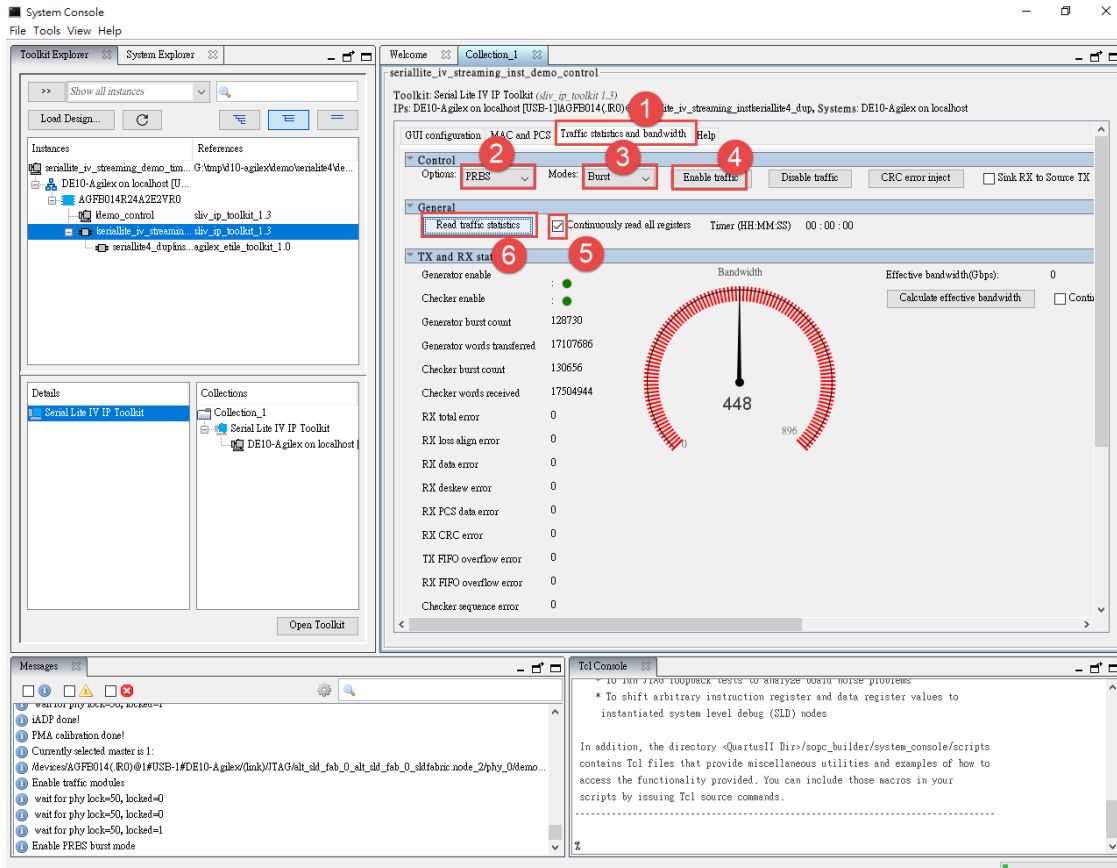
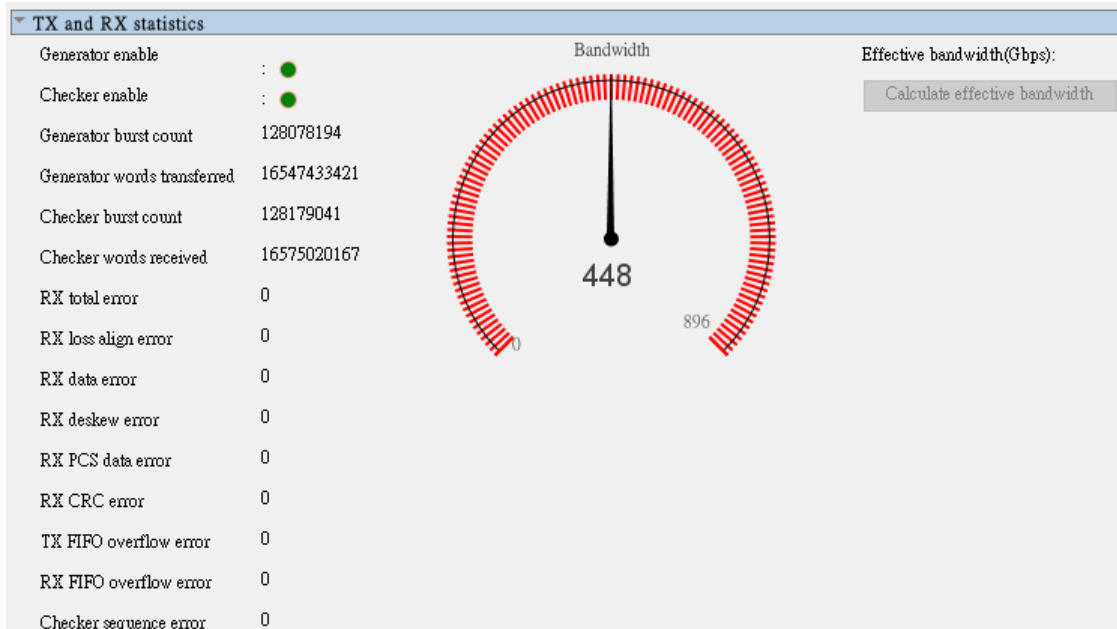

Figure 9-24 Traffic statistics and bandwidth tab
Figure 9-25 Traffic statistics and bandwidth
- Please refer to the **Figure 9-24**, choose **Traffic statistics and bandwidth** tab and follow steps 1~6 to implement various CSR for the Demo Management module to configure the traffic generator and checker. **Figure 9-25** shows the real-time bandwidth calculation measurement result based on the traffic modules instantiated in the example design.